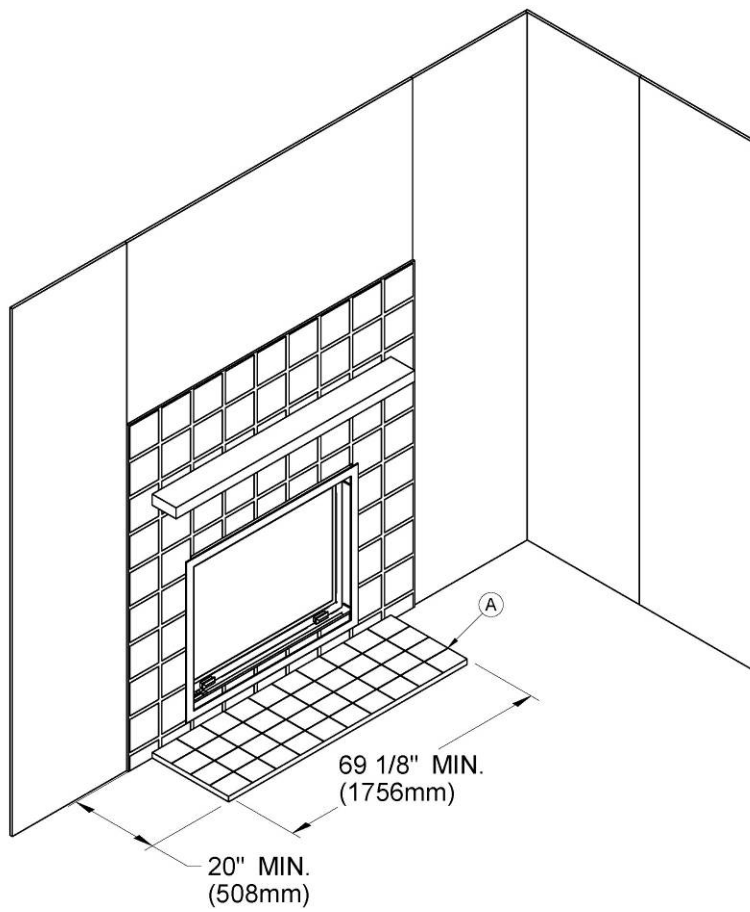
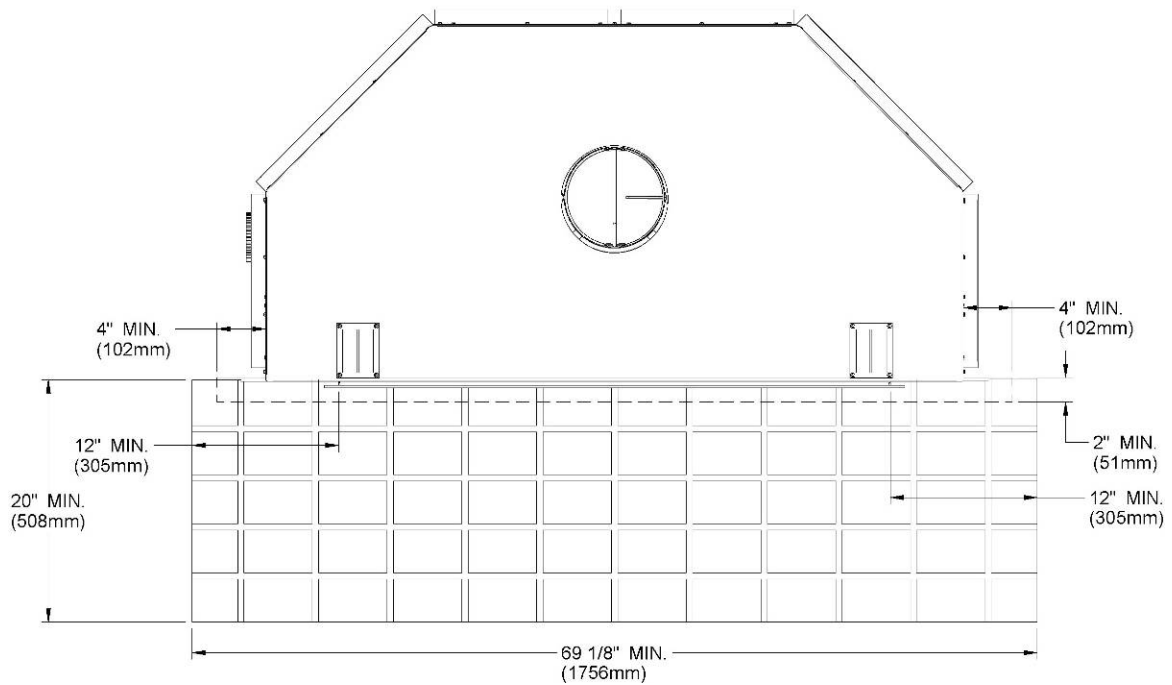

Figure 4
Figure 5
The hearth extension floor area (see (A), **Figure 4**) must extend at least 20" (50 cm) in front and at least 12" (30 cm) on each side of the door opening (see **Figures 5** and **6**). The joint between the hearth extension and the fireplace hearth needs to be made of non-combustible material such as sheet metal or sand-cement grout (not included) as shown on **Figure 6**.
WARNING: THE HEARTH EXTENSION IS TO BE INSTALLED ONLY AS ILLUSTRATED (see **Figures 5** and **6**).